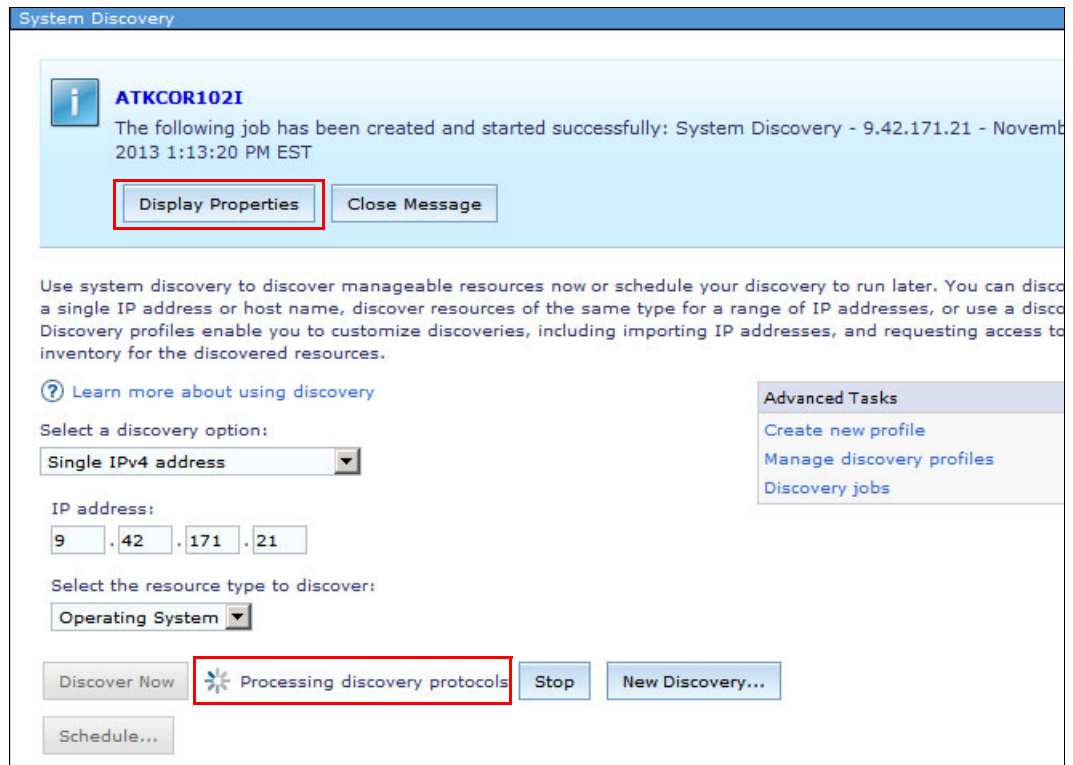

Figure 6-66 Discovery job information
3. A blue informational message is displayed that indicates that the job is started, and the Processing discovery protocols status is displayed, as shown in Figure 6-66. Click **Display Properties** to check the job status, if needed.